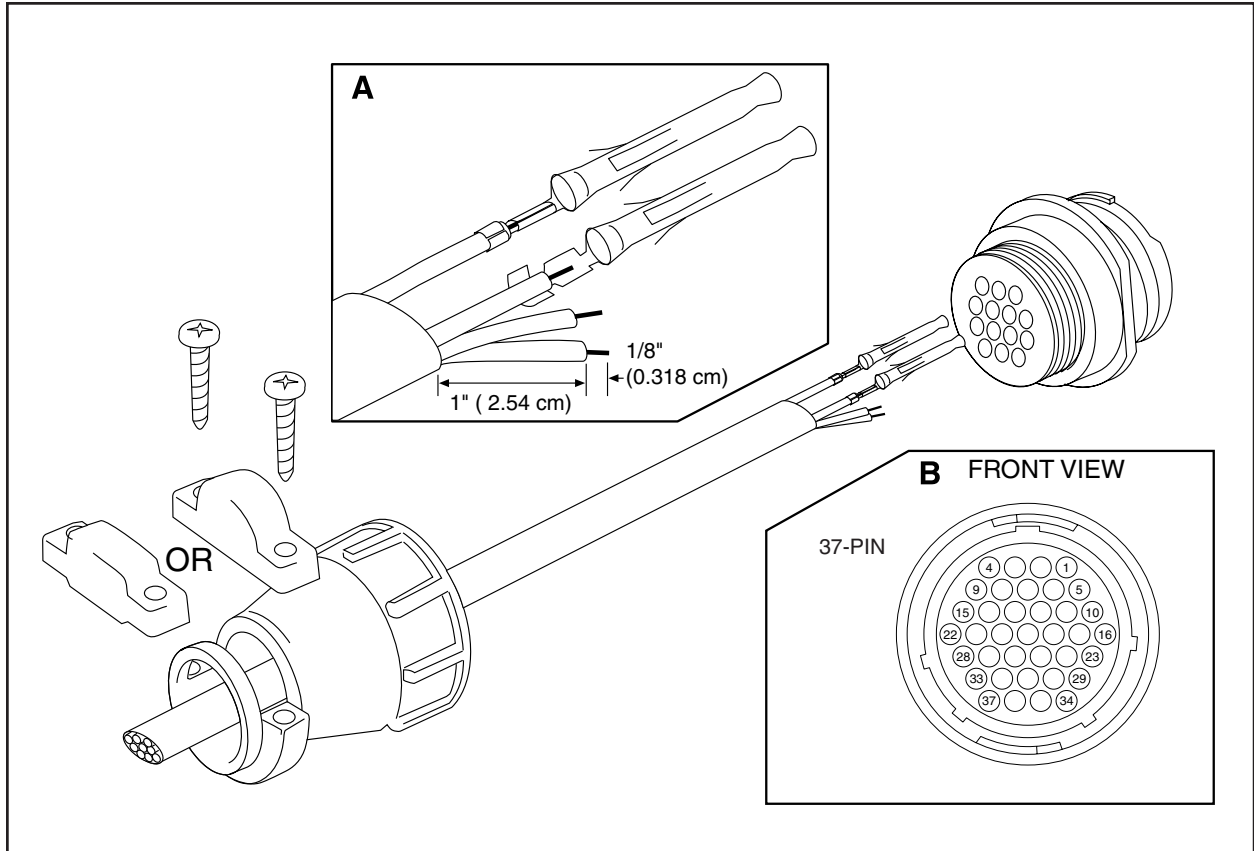

Figure 1. Connector Assembly
Assemble the connector parts according to the instructions below. Detail B, in Figure 1, reflects the pin arrangement specific to the CX9000 Series receiver/drivers. Refer to Figures 1 and 2 during assembly. For best results, use an AMP style crimper when making the wire to pin connection.
- c. Using an AMP style crimper, crimp the wires and their insulation to the connector pins. Refer to Detail A in Figure 1.
3. Slide the connector pins into the appropriate holes in the connector body until they snap into place. Refer to Figures 1 and 2 for correct pin arrangement, depending on model and options.